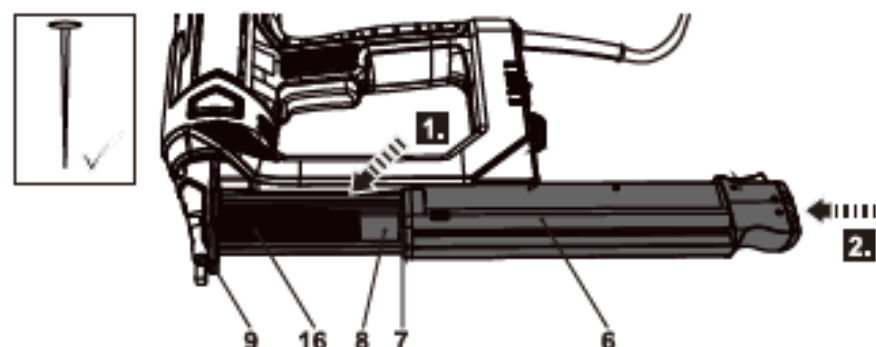

Fig. 3
3. Fill the magazine (8) with the required nail strip (16) (Fig. 3, step 1). Ensure that the nail or staple tips are pointing towards the base of the product.
- After loading, push the magazine slider (6) back into the magazine (8) until it clicks into place (Fig. 3, step 2). Ensure that the nail strip (16) is engaged between the nailer head (9) and the press plate (7).